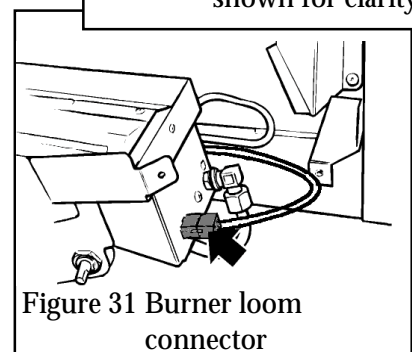

Figure 31 Burner loom connector
13.4.2 Detach the burner wiring loom connection at the right side of the burner (see figure 31).